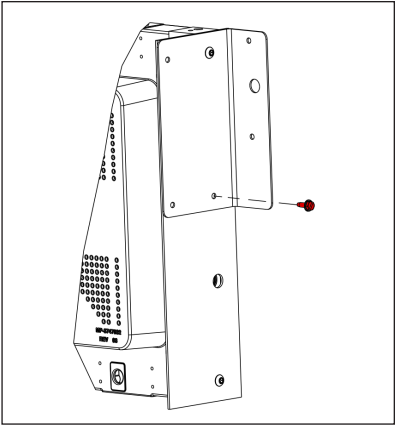

Figure 8: Install TEK Screw
3. Use a 5/16" socket/driver to install a #10-16 x 0.75 TEK screw (HC-1530) through the bottom-right hole in the bracket. Refer to **Figure 8**.